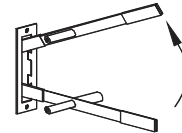

Fig. 5
- b. **4" Bottom Seal Operation (You will know if you have optional 4" bottom seals because you will have a special operating key and seal mechanism, see Fig. 5):** Slide operating key into slot located in trail edge of panel. Push the key down and to the left. Now lift the key up to the top notch and move back to the right. When the mechanism is firmly placed into the slot and the seal(s) extended, remove the key.